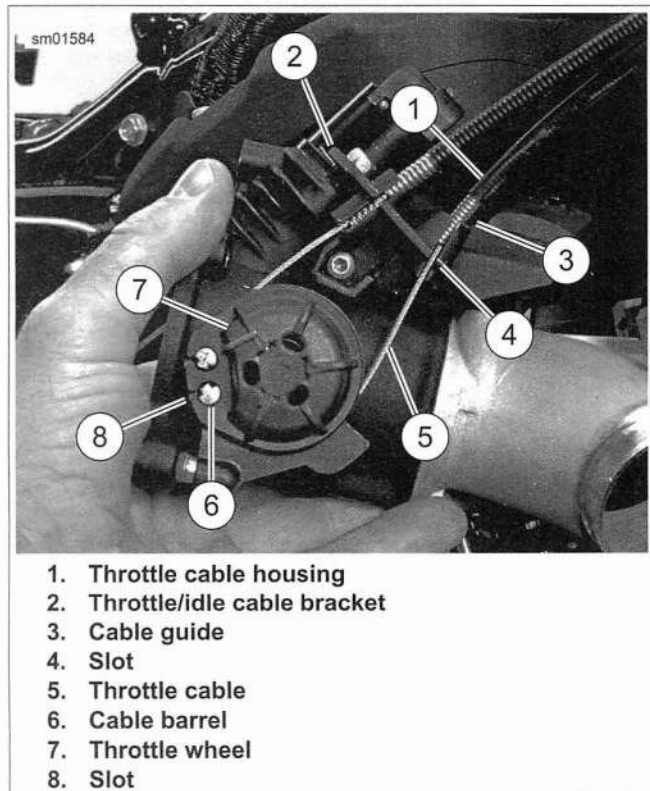

Figure 4-35. Removing/Installing Throttle Cable
15. See Figure 4-35. Remove throttle cable (5) from throttle wheel (7)
- a. Lift throttle cable housing (1) up out of cable guide (3) in throttle/idle cable bracket (2).
- b. Slide throttle cable (5) out through slot (4) in cable guide.
- c. Unwind throttle cable from groove in throttle wheel (7).
- d. Slide cable out through slot (8) and remove throttle cable barrel (6) from throttle wheel.